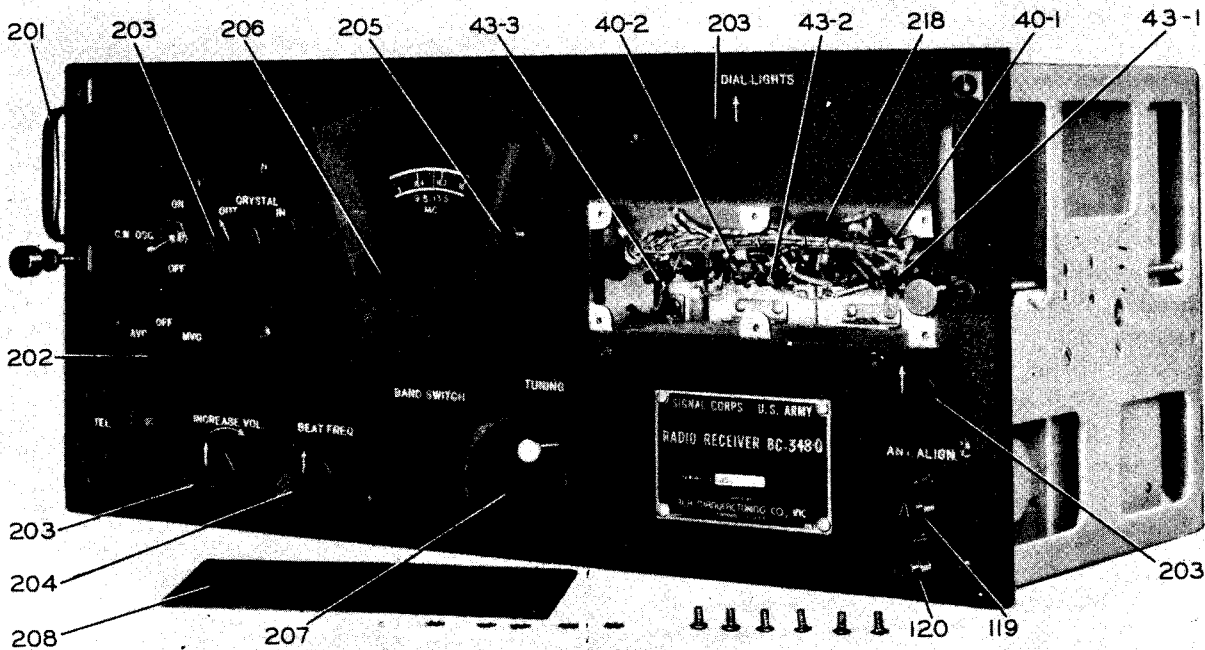

Figure 3 — Radio Receiver BC-348-(\*) or BC-224-(\*), Front View of Chassis with Tube Shelf Cover Removed
b. CHASSIS.—The chassis consists of an aluminum casting mounted between two end-plates of sheet aluminum which serve as runners and guides when placing the chassis in the cabinet. The end-plates are provided with cutouts to facilitate servicing. (See fig. 3.)